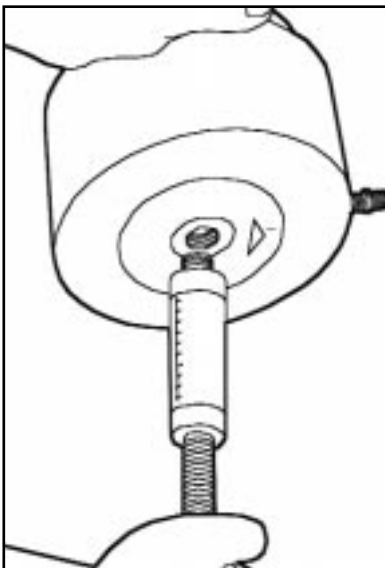

Figure 54
2. Remove the stroke adjuster. Loosen the knurled lock/set nut on top of the motor cylinder body to unscrew the adjuster from the motor cylinder. (Fig.54)